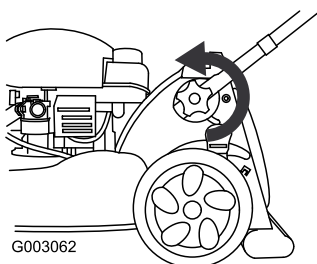

Figure 43
1. Loosen the lower handle knobs (Figure 43).